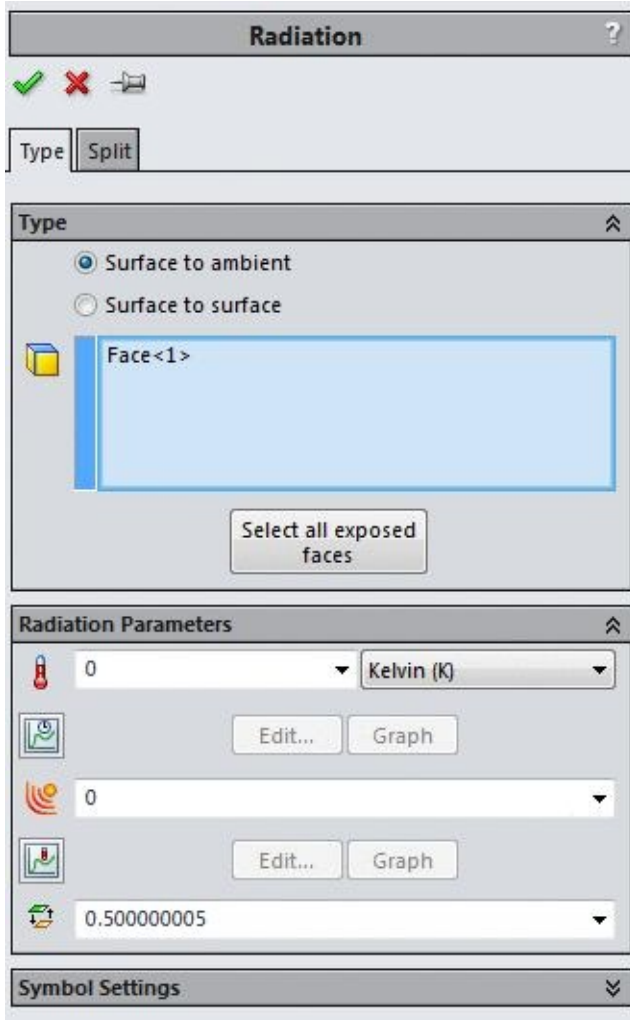

Figure-11. Radiation PropertyManager
- Click on the **Radiation** button from the list. The **Radiation PropertyManager** will be displayed as shown in Figure-11.